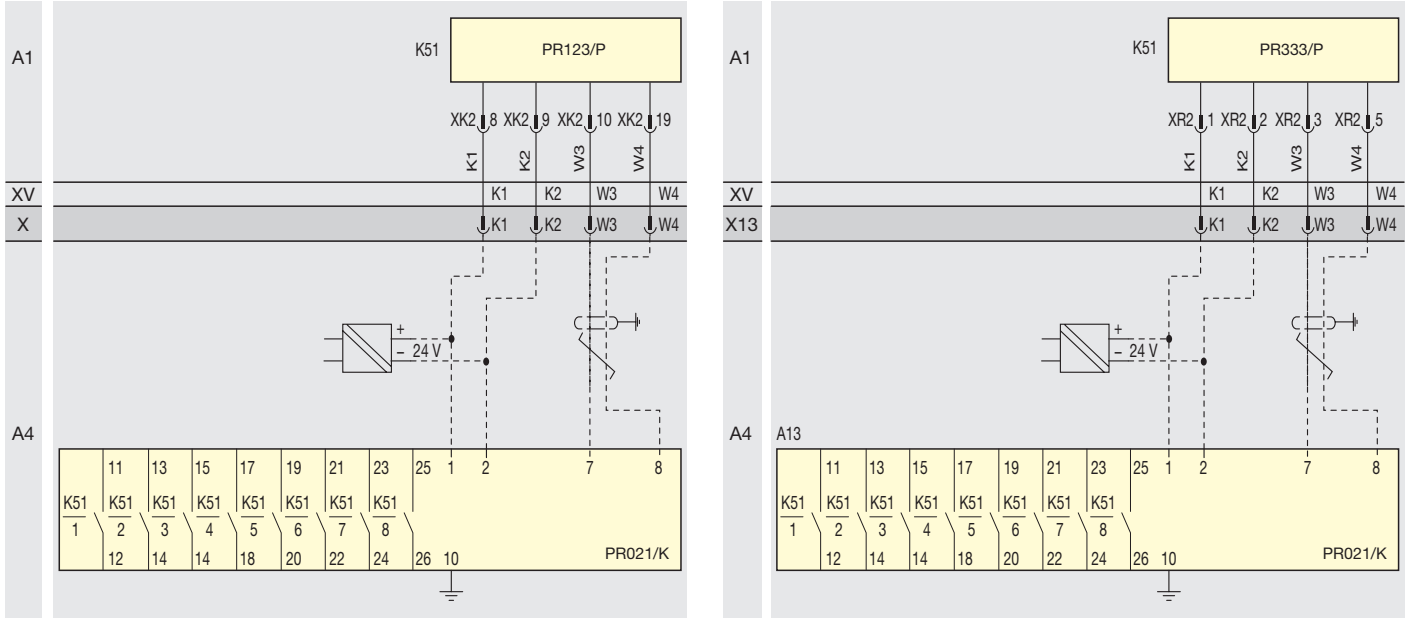
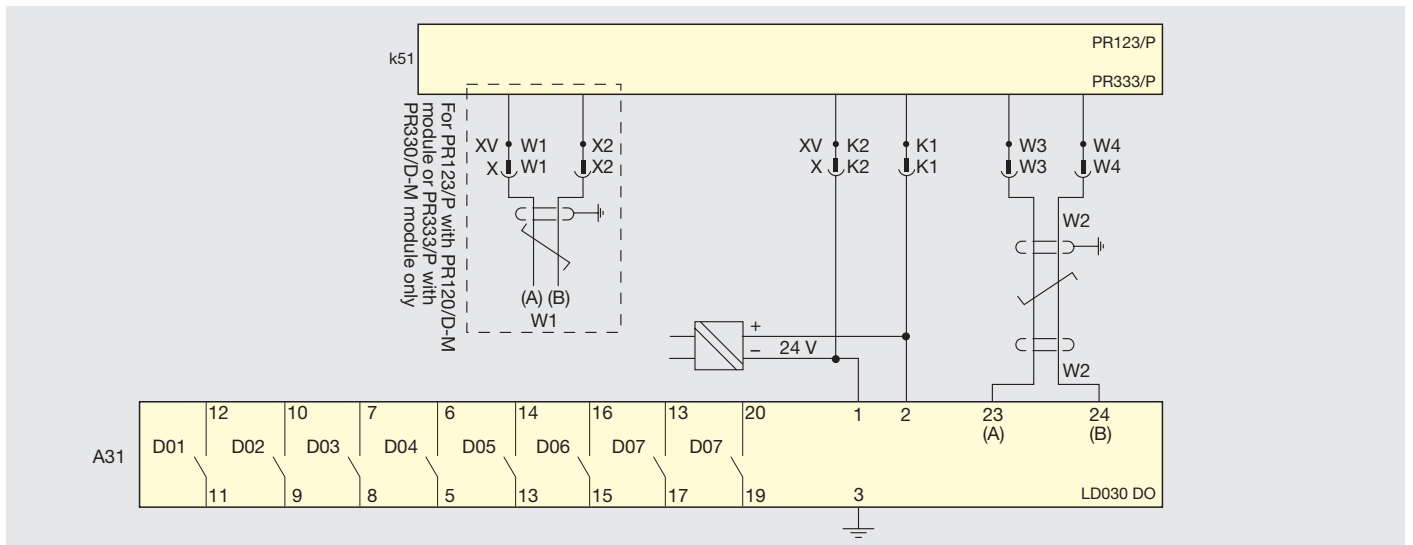

Figure 9 – PR021/K signalling unit
Figure 10 – LD030 DO
- to apply and set the signalling module as PR120/K, PR021/K or LD030 DO in order to make available one contact to command the opening of the MV circuit-breaker. This contact must be programmed so that the contact, normally open, shall close when the trip unit of the LV circuit-breaker detects the fault thanks to the external G protection. The circuit diagrams below show the contacts available in the PR120/K (Figure 7-8), PR021/K (Figure 9) and LD030 DO (Figure 10) signalling units;